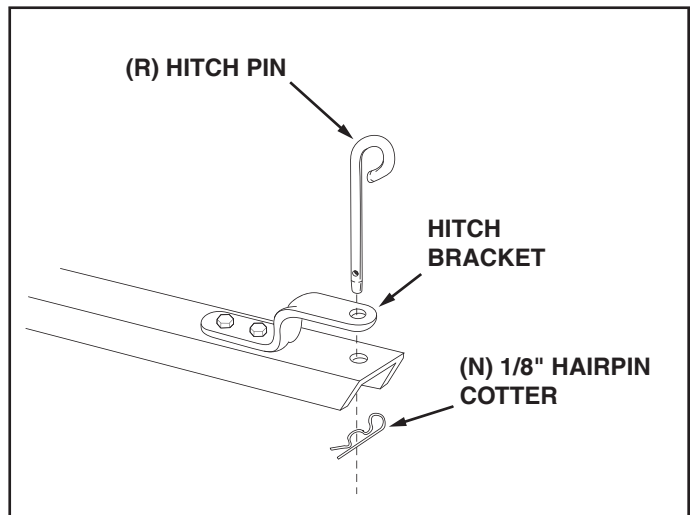

FIGURE 12
19. Assemble the hitch pin (R) through the tongue and hitch bracket and secure it with the 1/8" hairpin cotter (N). See figure 12.